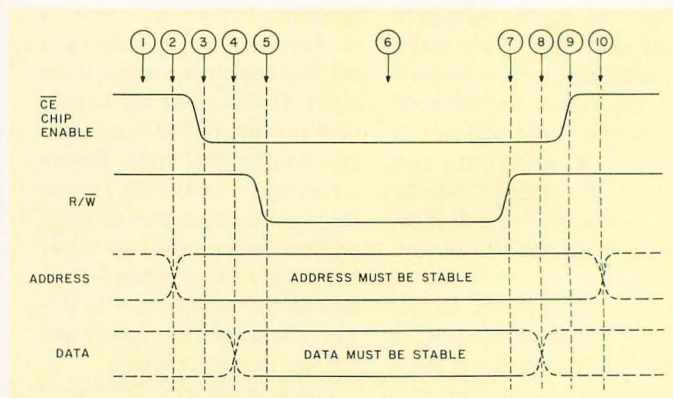
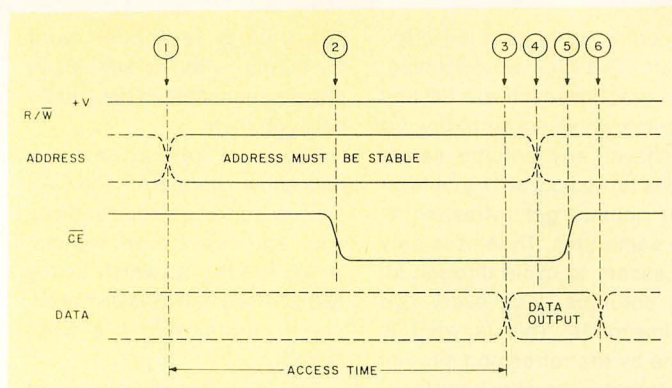

Fig. 8. Switching time waveforms for a 2102 write cycle.
Fig. 9. Switching time waveforms for a 2102 read cycle.
**Theory:** The sequence of steps required to use the RAM is shown in the manufacturer's data in the form of switching time waveforms as shown in Fig. 8 for a write and Fig. 9 for a read.
To store a bit in a certain address, follow this procedure; the number of each of the following steps is shown circled in Fig. 8:
2. Place an appropriate address on the ten address lines. As shown in Fig. 8, to the left of the 2 dotted line, we have shown the address line dotted as well. This means that it doesn't matter what is on these lines at that time. But from time 2, all the way to time 10, the address lines must all be stable at either 0 or 1. This is why there are two curves drawn for the address lines, one high and the
A manufacturer's specification sheet will give various minimum times for the sequence shown in Fig. 8. For instance, the sheet may say that at least 200 ns must pass from the time that the address is applied to the time the read/write line goes low, or that the data must remain stable for at least 100 ns after the read/write line goes back high. In your experiment you do not have to worry about these minimum times since you will be working in seconds rather than billionths of seconds, but if you were designing a computer system you would have to read the spec sheets very carefully.
Fig. 9 shows the switching times for a read cycle. To read, we would have to follow this sequence of steps:
The total time for the entire cycle is called the read cycle time, but another time is often quoted and that is the read access time shown in Fig. 9. This is the time from when the address is first applied to the time data first starts to come out. Typical access times for small home computers range from 600 ns down to as low as 250 ns. Much faster RAM memories are available, but not yet used to any great extent in small computers since they are faster than the microprocessors used with them. Very fast memory ICs would be used in large computers that use TTL or ECL ICs in the processor.